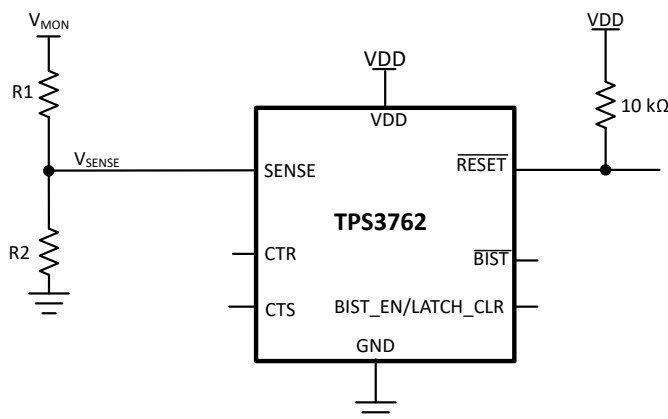

図 8-1. Adjustable Voltage Threshold with External Resistor Dividers
図 8-1 illustrates an example of how to adjust the voltage threshold with external resistor dividers. The resistors can be calculated depending on the desired voltage threshold and device part number. TI recommends using the 0.8 V voltage threshold device when using an adjustable voltage variant. This variant bypasses the internal resistor ladder.
For example, consider a 12 V rail, V_{MON} , being monitored for overvoltage (OV) using of the TPS3762D02OVDDFR variant, as shown in 図 8-1. The monitored OV threshold, denoted as V_{MON+} , is the desired voltage where the device asserts the reset. For this example $V_{MON+} = 35$ V. To assert an overvoltage reset the voltage at the sense pin, V_{SENSE} , needs to be equal to the input threshold positive, V_{ITP} . For this example variant $V_{SENSE} = V_{ITP} = 0.8$ V. Using R_1 and R_2 the correlation between V_{MON+} and V_{SENSE} can be seen in 式 8. Assuming $R_2 = 10$ k Ω , and R_1 can be calculated as $R_1 = 427.5$ k Ω .